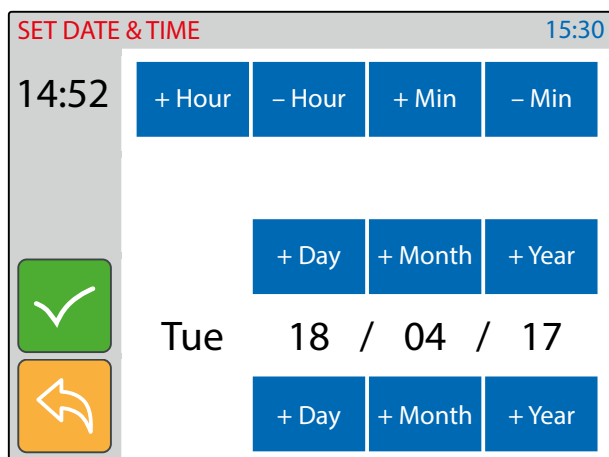

Fig. 13 Set the date & time
- Continue from step 4 of surface mounting instructions, but at step 7 hook the hinge locks **(N)** as shown on **Fig. 13**.
- The current date & time is shown (Fig. 13).